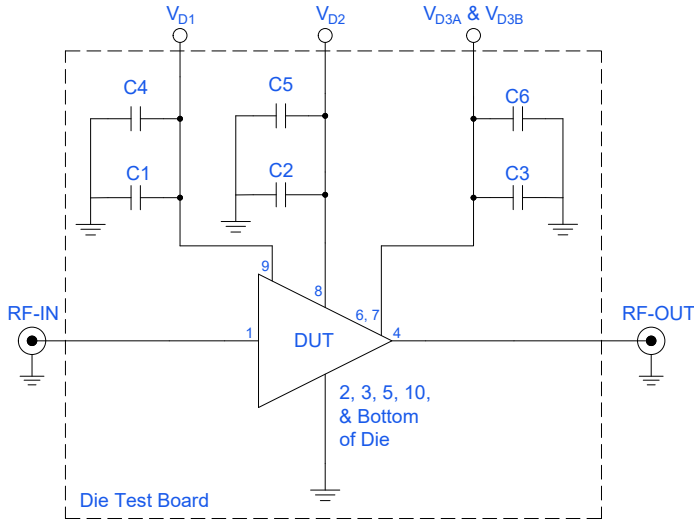

Figure 3. PMA4-6263LN-D+ Characterization and Application Circuit
1. Tested on Mini-Circuits Characterization Die Test board. See Figure 3. Loss de-embedded to the RF input and output wire bonds of the device.